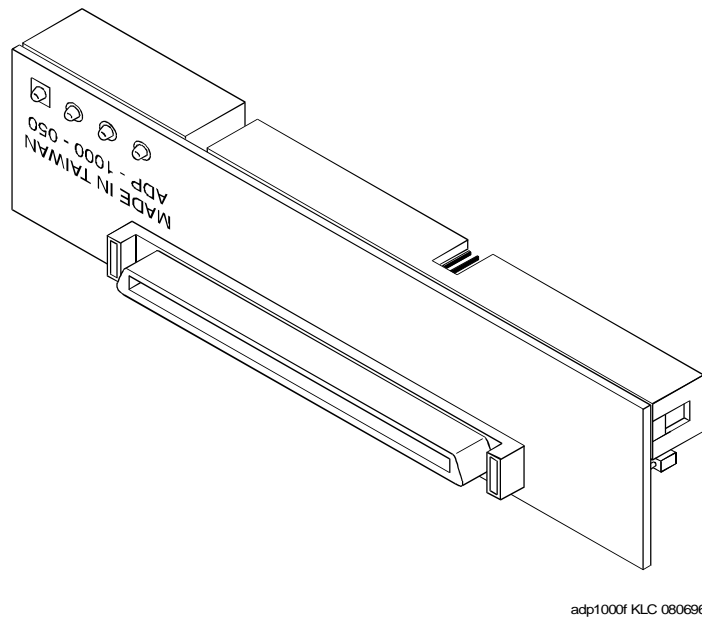

Figure C-25. MAP/5 Adapter Card: Side to be Connected to the Hard Drive
3. Connect the MAP/5 adapter card to the hard disk drive. Figure C-25 below shows the side of the MAP/5 adapter card that should be directly connected to the drive. Connect the card so that the jumpers on the card face away from the body of the drive.